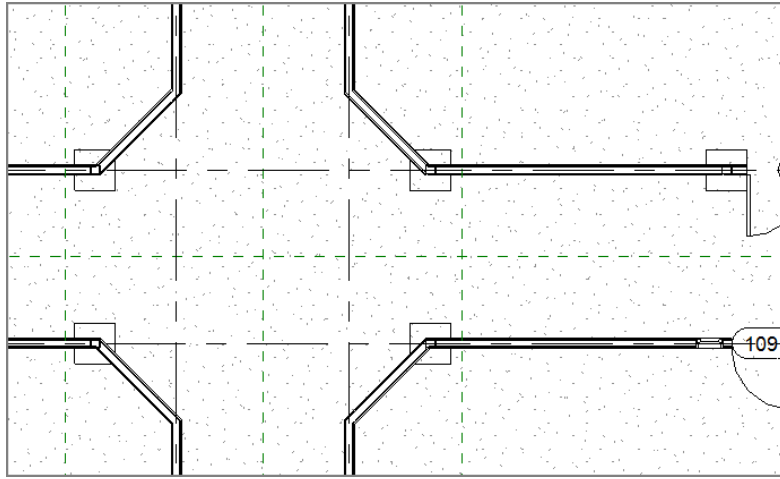

FIGURE 8.68: Making the necessary adjustments
12. Do the same for the pier under the doorway, as shown in Figure 8.68.